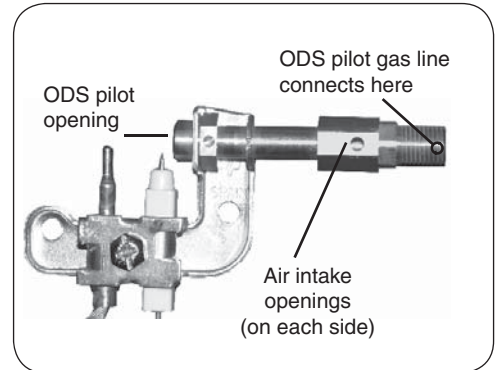

Fig. 12-1
1. Turn the burner system to the **OFF** position and allow it to cool. Inspect the ODS pilot area (see Fig. 12-1) for any visual contamination or debris (usually lint, hair, spider webs, or small insects). Lightly brush off all external surfaces while vacuuming loosened debris from the ODS pilot opening. **Be careful not to brush any foreign material into the ODS pilot opening.**
2. Clean out the air intake openings (see Fig. 12-1) by lightly brushing around the openings while vacuuming.
4. If the ODS pilot flame does not burn as indicated in the instructions, extinguish the ODS pilot by turning the valve to the full **OFF** position. Using a compressed air duster, insert the flexible nozzle through the air intake openings, ensuring that the nozzle is pointed toward the ODS pilot opening (see Fig. 12-1). Blow air through the intake openings to clear out any debris that may be in the system.
5. Relight the ODS pilot and inspect it to be sure it is burning as shown in the instructions. If not, extinguish the ODS pilot and **turn off the gas supply to the burner system.** Using an adjustable or a 1/4" wrench, disconnect the ODS pilot gas line (see Fig. 12-1) from the valve.